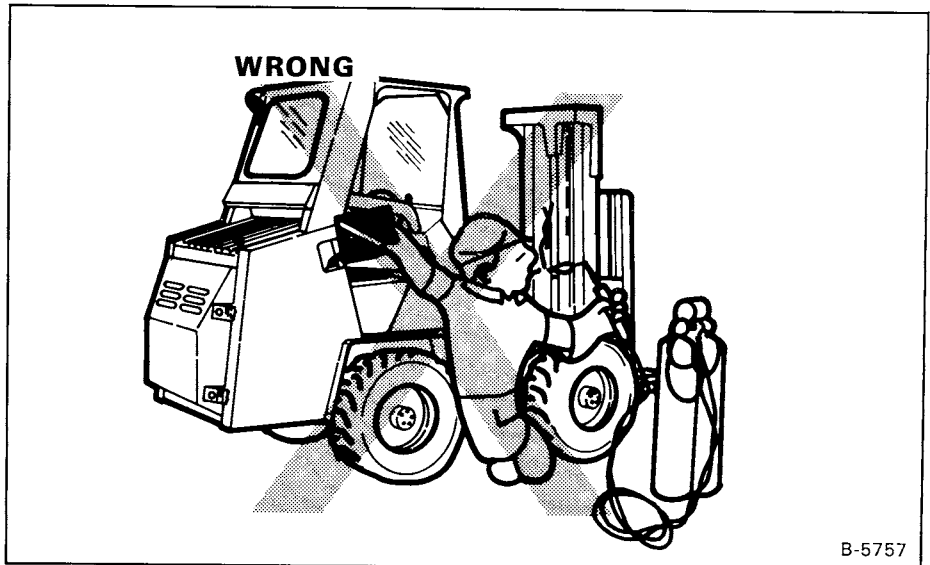

Fig. 51 Fuel Fill Warning
4. Add fuel only in an area that has a free movement of air and no open flames or sparks. NO SMOKING (Fig. 51).